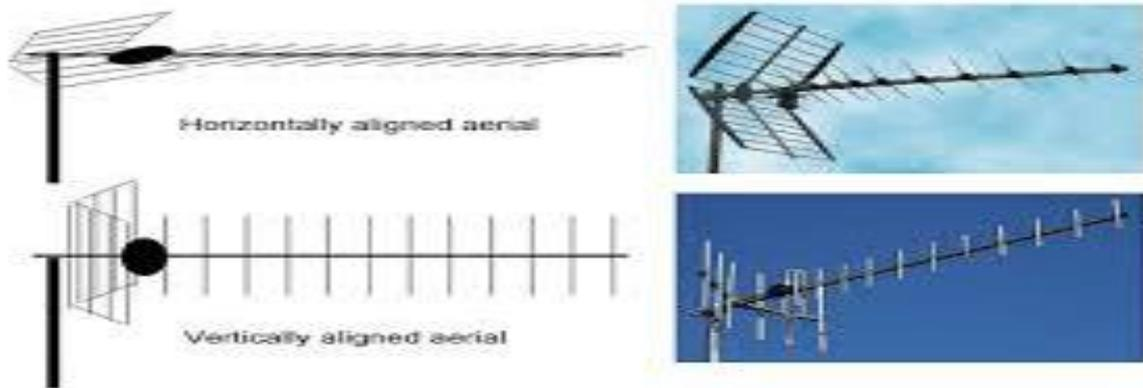

Figure 1: Antenna polarisation (Horizontal and Vertical).
- 2.4.6.** Antenna polarization can be changed by changing the horizontal orientation of the antenna as indicated in Figure 1 below.